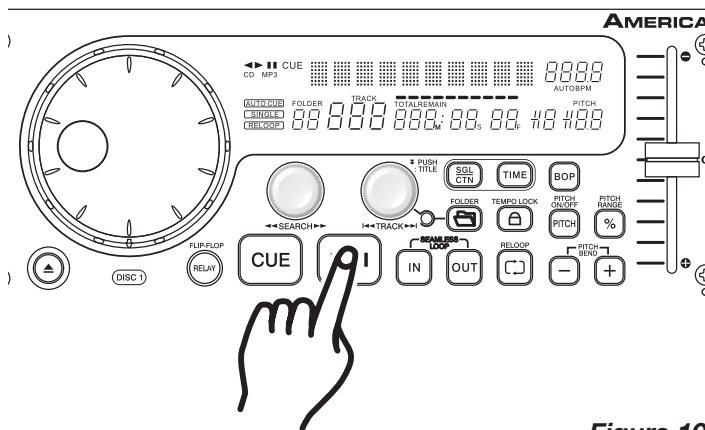
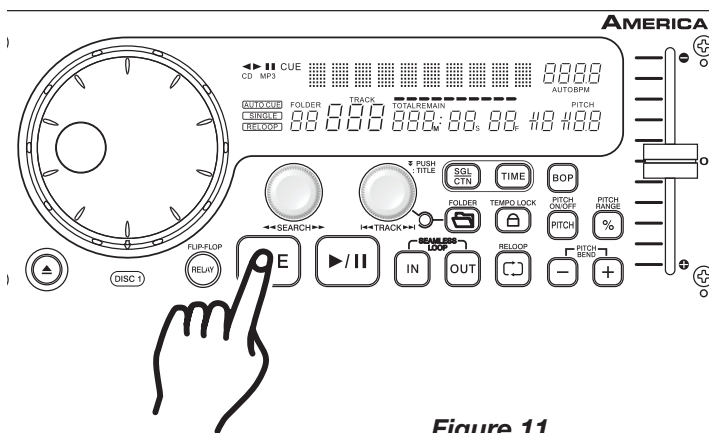
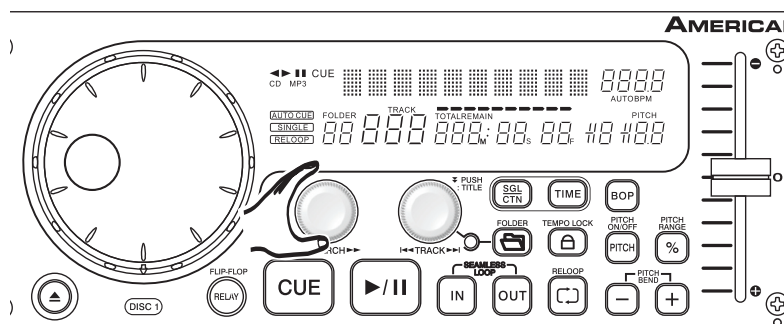

Figure 10
Figure 11
Figure 12
### 3. STARTING PLAYBACK - Figure 10
### 5. STOPPING PLAYBACK - Figures 10 & 11
### 6. PAUSING - Figure 10
This feature allows you to scroll through a track frame by frame, allowing you to find and set a starting cue or loop point. To use the scroll function you must first be in Pause Mode (see section 5) or Cue Mode (see section 8). Once you are in Pause or Cue mode, turn the *SEARCH KNOB* (4) to scroll through the track (Figure 12). Turning the knob in a clockwise direction will advance the frame search and turning the knob in a counter-clockwise direction rewinds the frame search. When you use the *SEARCH KNOB* (4) the monitor (headphone level) function allows you to hear what you are scrolling through. Once you reach your desired starting point you can set a cue (starting) point by pressing the *PLAY/PAUSE BUTTON* (18) as in Figure 10. Pressing the *CUE BUTTON* (19) as in Figure 11 will now return you to the point you just set.